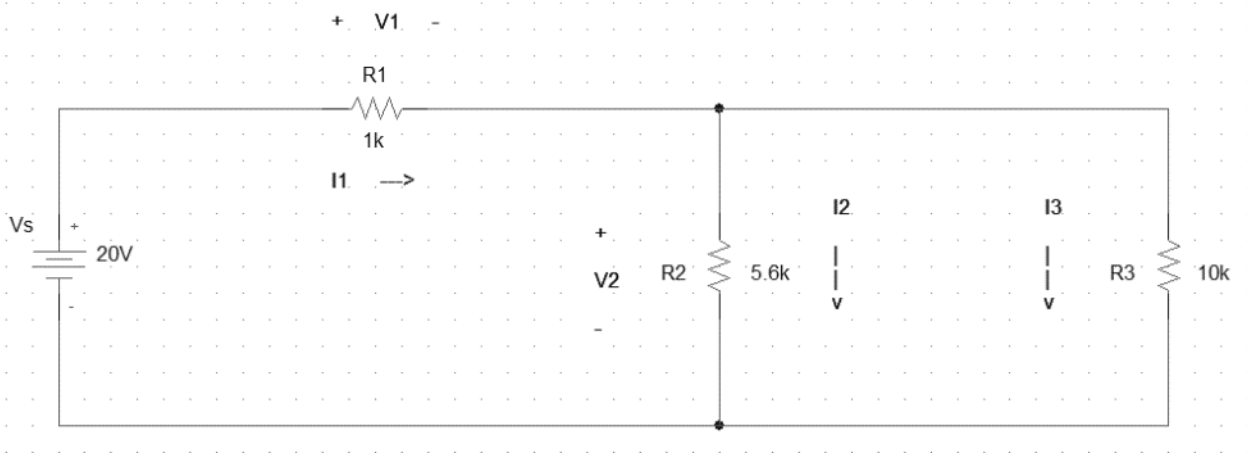

Fig. 2: Verification of KCL
- i. Connect the resistors in series-parallel across the power supply as shown in Fig. 2.